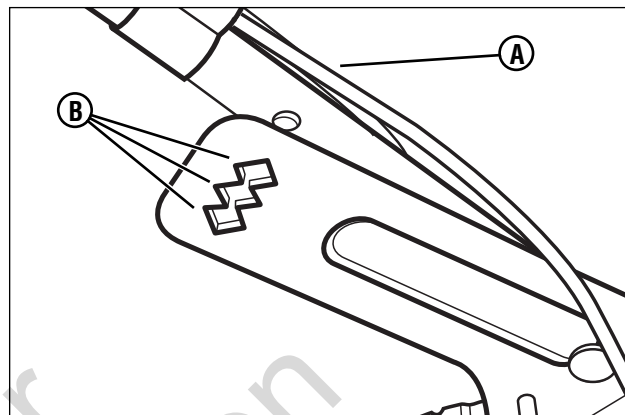

Figure 5: Adjusting the handle height
1. Remove the handle knobs, washers and carriage bolts from the lower handle (**A**, **Figure 5**).